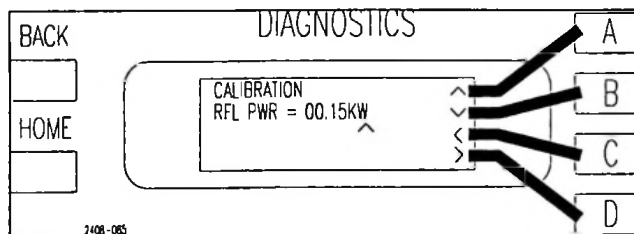

Figure 5-9 Reflected Power Calibration Screen
- STEP 10** Press [HOME, MORE, CONFIGURATION C,D]. This will take you to the Reflected Power Cal screen and should look like Figure 5-9. Set this screen to 00.15kW. **Press and hold [D] and then press [BACK] to calibrate the reflected power meter to 150 watts and save the information.** The display will flash “Calibration Done” very quickly at the bottom of the Diagnostics Display.